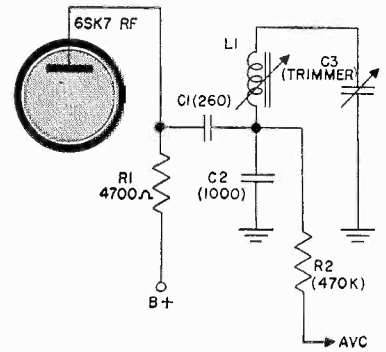

Fig. 1 Coupling circuit between the RF and converter sections of the Stewart-Warner Model 61T16-61T26.
A rather unusual feature is the type of coupling circuit used between the 12SK7 RF stage and the 12SA7 converter. This circuit is shown in Fig. 1. Notice that there is a plate load resistor, R1, connected in a manner similar to those used in audio amplifiers. The radio frequency output of the stage appears as a voltage across this resistor. Condensers C1 and C2 form an AC (RF) voltage divider between the top of R1 and ground. The portion of the voltage across C2 is in series with the tuned circuit formed by C2 and C3 in series and L1. Since this circuit is aligned by means of the slug tuner to tune to the incoming signal, the radio frequency energy thus fed in is built up to a high voltage on the